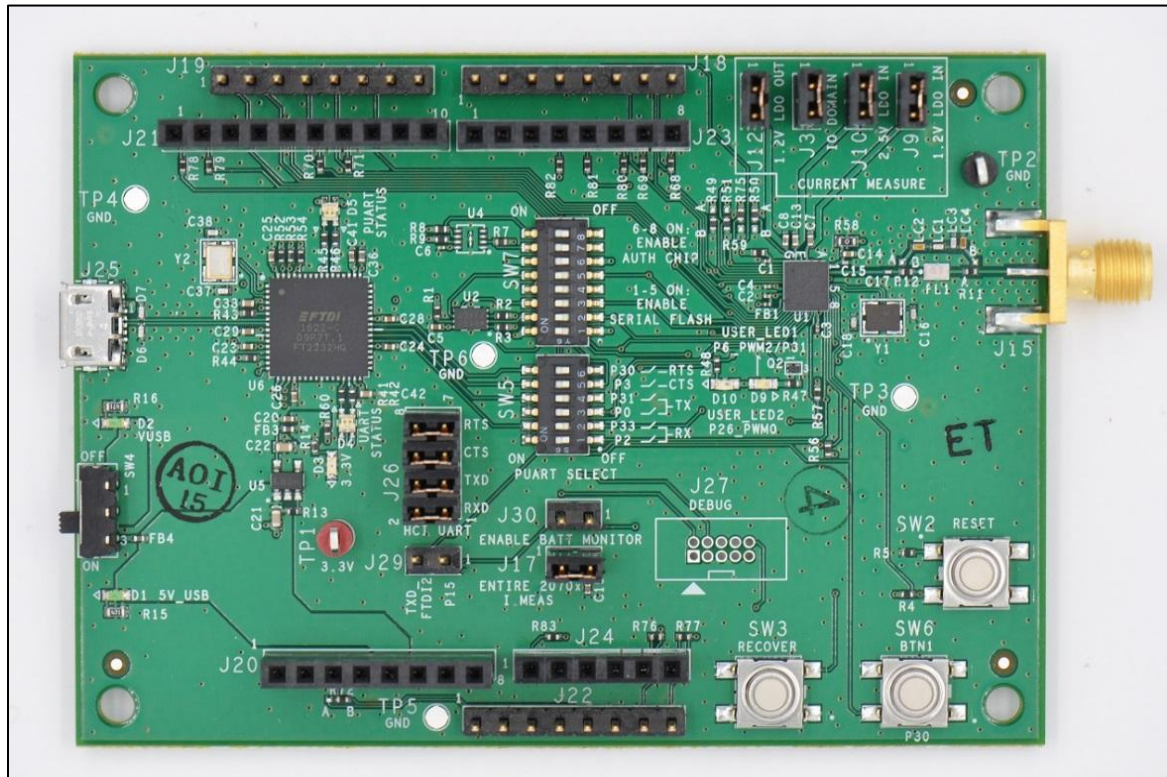

Figure 3-1. CYW920706WCDEVAL Evaluation Board
Figure 3-1 shows the CYW920706WCDEVAL WICED evaluation board.
4. Verify that **SW4** is set to the ON position to enable USB power (see Figure 3-1).